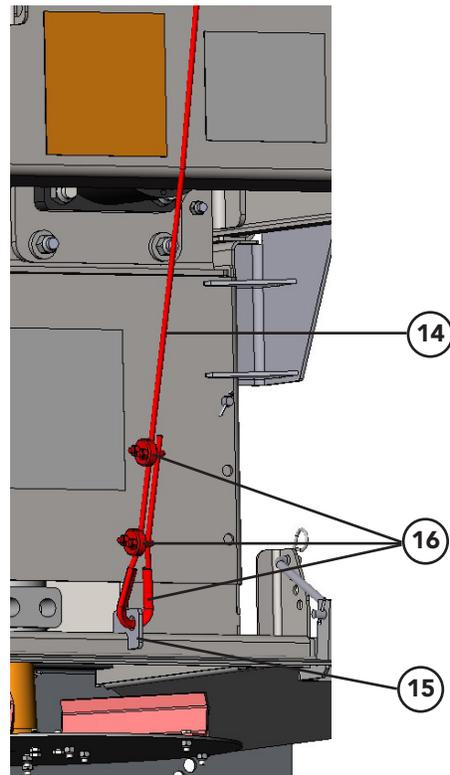

Figure 2 – Pully Installation
5. Figure 2 - Attach Pully (11) to weldment (12) using quick Link (13).
6. Run Cable (14) as shown.
7. Secure cable to Spinner Weldment (15) using Clamp Assembly (16).